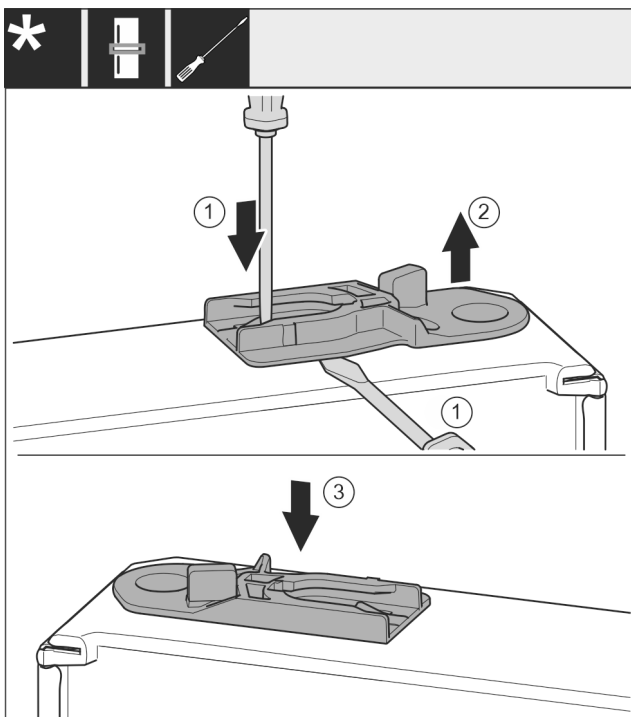

Fig. 40
- ▶ Pull out the guide bush: Press the tab *Fig. 40 (1)* with a flat-blade screwdriver and at the same time move the flat-blade screwdriver under the guide bush *Fig. 40 (2)*.
- ▶ Insert the guide bush *Fig. 40 (3)* supplied on the other side of the housing.